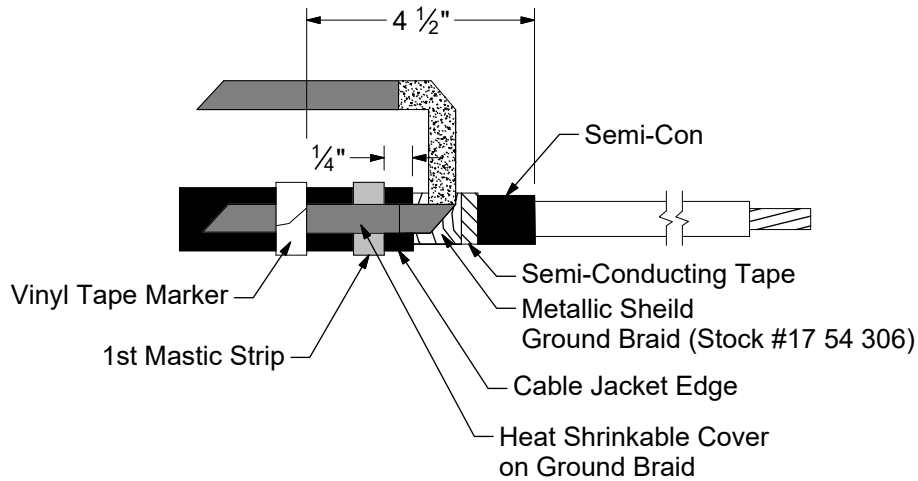

Figure 3A
- Position a preformed ground braid (Stock #17 54 306) with the "U" section over the metallic shield directly adjacent to the cable jacket cut edge. Position one tail of the ground braid over the cable jacket with the heat-shrinkable covering in contact with the mastic strip. Secure the tail to the cable jacket 4-1/2" from the edge of the semi-con using vinyl tape. Note: Position the vinyl tape with care since it also serves as a marker for positioning the terminator. See Figure 3A.